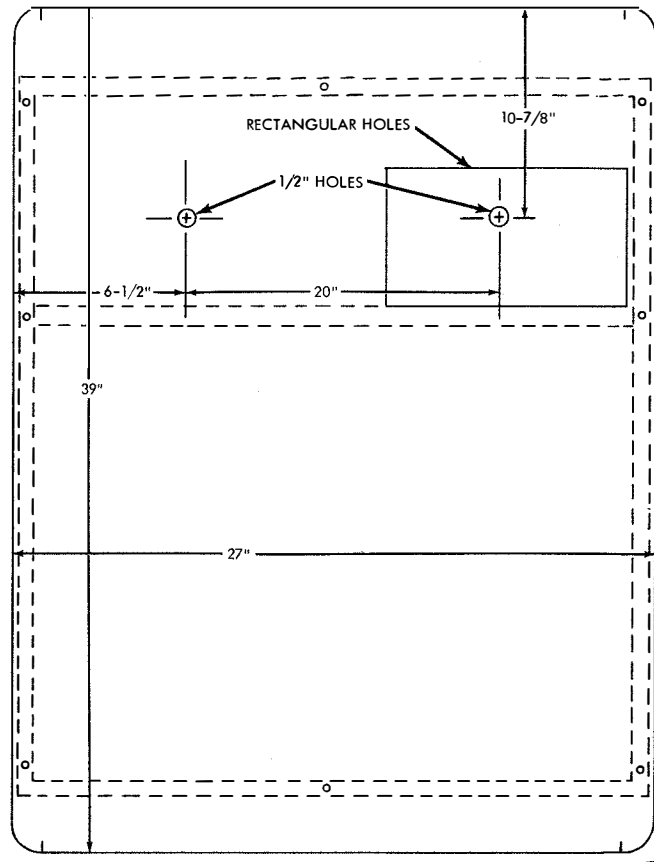

Figure 3-6. Transmitter Cabinet, Floor Plan
(2) The transmitter cabinet (Cabinet, Electrical Equipment CY-1524/FGC) is secured to the floor with 1/2-inch bolts (not furnished) through the 1/2-inch holes in the cabinet base (see figure 3-6). Make two holes in